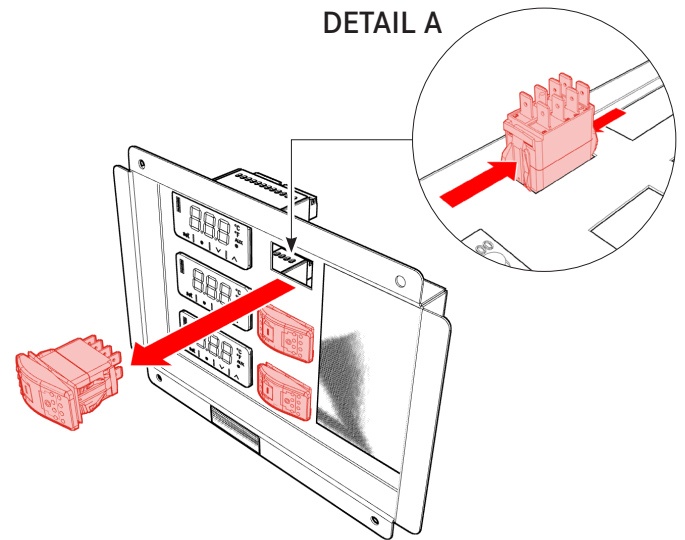

Fig. 2
3. Remove power switches by pressing in on tabs on sides of each switch. Pull switch through frame to remove (Fig. 2).